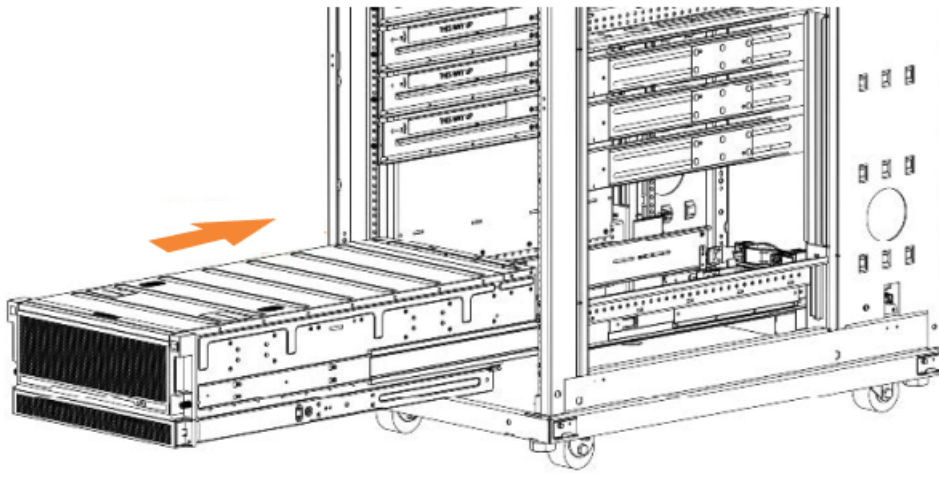

Figure 38. Example installation of the enclosure in the rack
- Install the expansion enclosure in the lowest position in the rack. Figure 38 on page 55 shows an example.